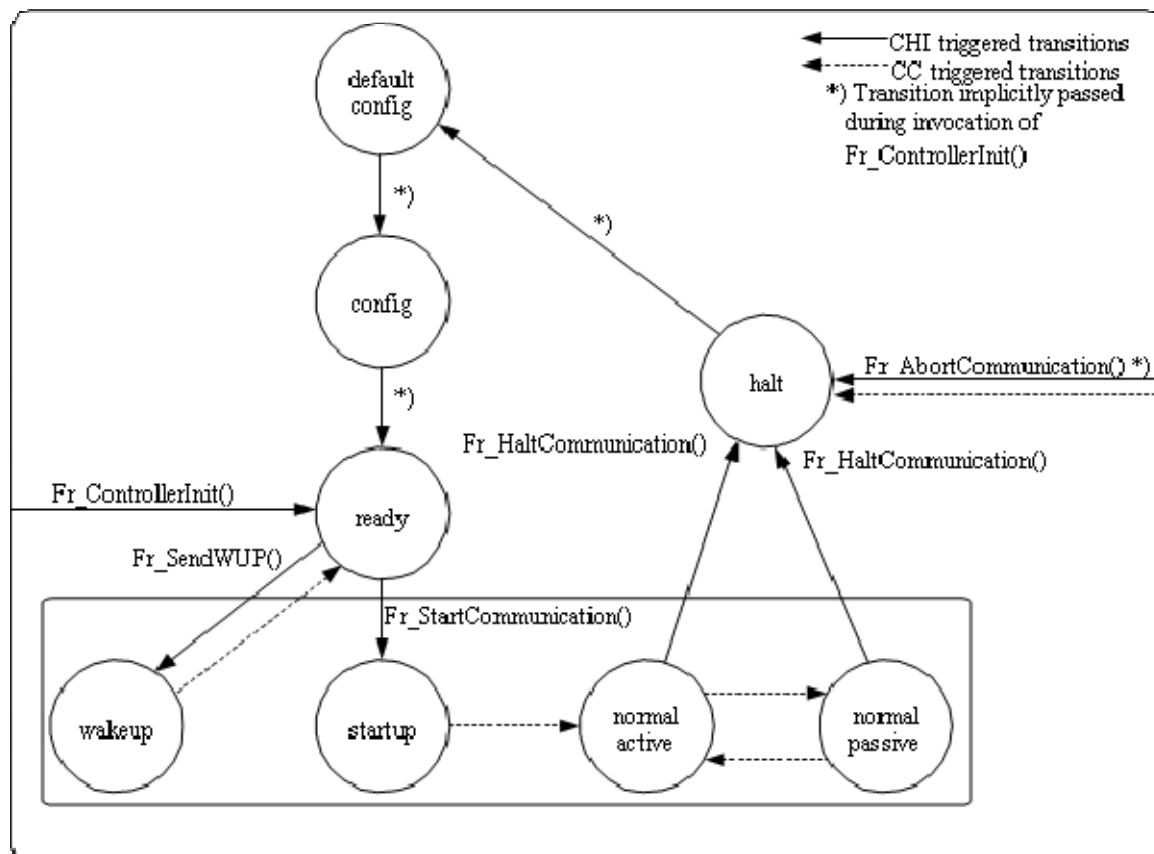

Figure 4 FlexRay Driver POC state machine control] ()
Figure 4 shows the POC states of the FlexRay CC and the transitions applicable to the Fr module API functions. Note that
- certain transitions specified cannot be performed by the current Fr module API (not drawn in Figure 4 – compare to [5]).